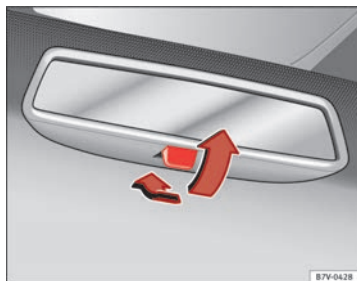

Fig. 64 Manual anti-dazzle function for rear vision mirror
- Pull the lever to the back to select the anti-dazzle function ⇒ Fig. 64.